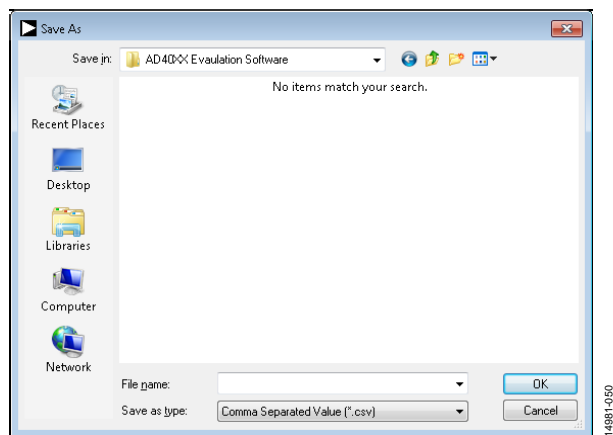

Figure 19. **Save As** Dialog Box
- **Save Captured Data** allows the user to save the current captured data for later analysis; the file format is .csv. The user is prompted to choose or enter the path of the file in the **Save As** dialog box (see Figure 19). Save to an appropriate folder location.